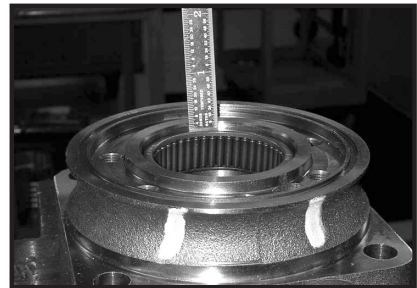

Figure 25
**NOTE:** The depth or location of bearing (13) in relation to the housing wear plate surface and the depth or location of bearing (19) in relation to the beginning of bearing counter bore should be measured and noted before removing the bearings. This will facilitate the correct reassembly of new bearings. SEE FIGURE 25.